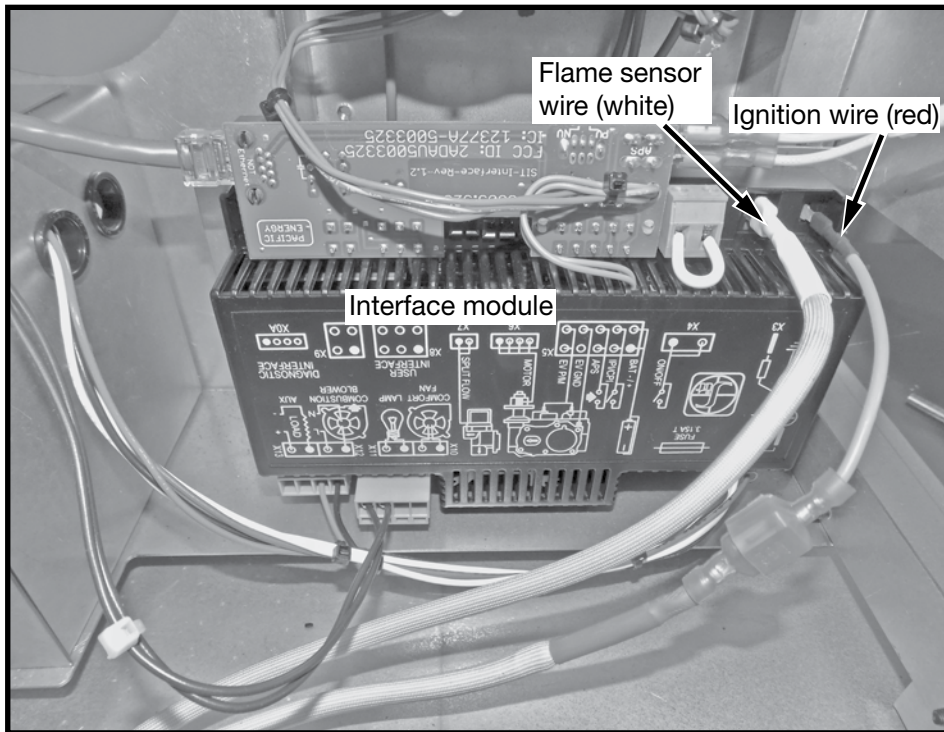

Figure 14: Ignition and sensor wires routing.
12. Attach the ignition and sensor wires to the interface module as indicated in Figure 14.